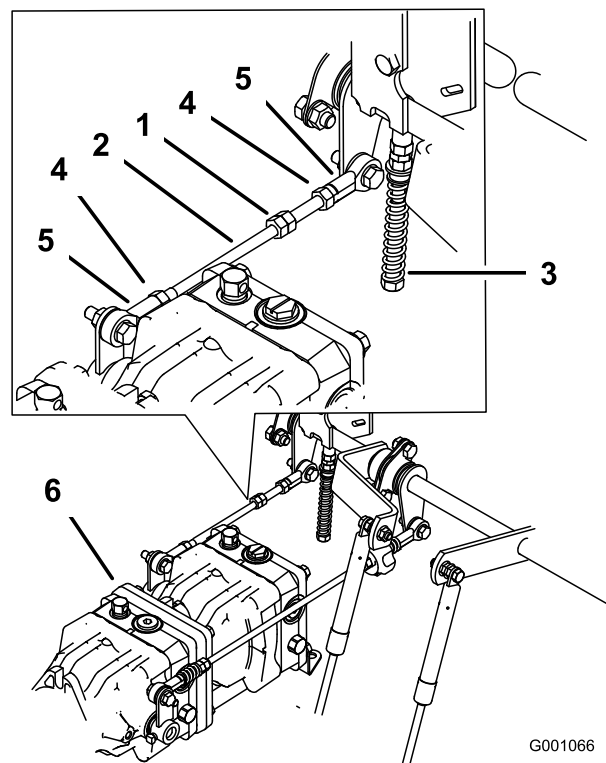

Figure 84
1. Loosen the locknuts at the ball joints on the pump control rod (Figure 84).
3. Adjust the pump rod length by rotating double nuts on rod, in the appropriate direction, until wheel is still or slightly creeps in reverse (Figure 84).
6. Tighten the locknuts at the ball joints (Figure 84).